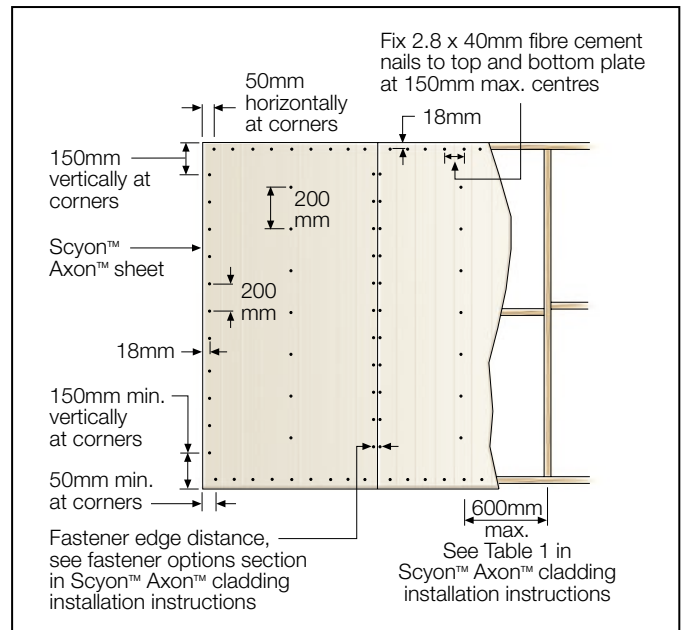

FIGURE 1 FIXING METHOD 1 FASTENER LAYOUT
4. Depending on the project's wind classification, closer sheet fixing centres may be required compared to Figures 1 and 2, refer to Table 2 in the current Scyon Axon installation instructions for more information.